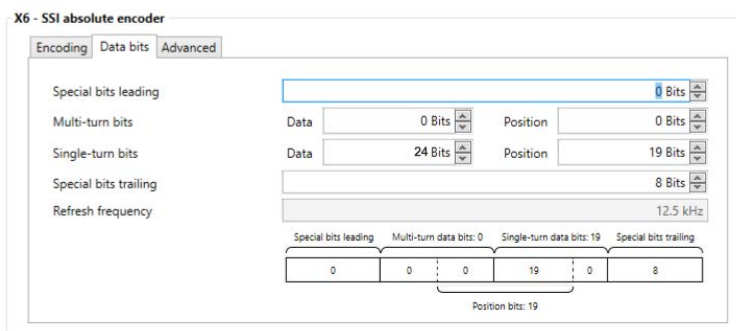

Figure 5 EPOS Studio settings in SSI mode
- EPOS Studio Settings: 0 Special Leading Bits, Data=0 Multiturn Bits, 0 Position, Data=24 Singleturn Bits, 19 Position, 8 Special Trailing Bits, see → Figure 5